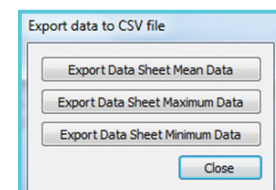

Figure 3.17 Export data to CVS file
- Export to CSV file - This submenu will export data in the Data Sheet into a comma- separated file. By clicking the Export to CSV file icon the following will be shown if different export types (Mean, Maximum and Minimum) have been used to generate the data in the Data Sheet (Figure 3.17). Select the data sets to export and save the CSV file.